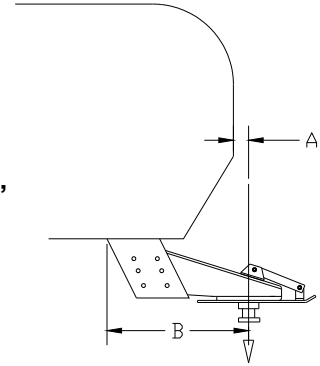

Figure 1
3. The trailer king-pin must be kept even with /or forward of the foremost point of the trailer. See "Caution" and "figure 1" on pg. 3.
4. Trucks with bed liners may need a tall Mounting Post. See "NOTE" under item 13 of "Drilling the Bed" on pg. 11 for detail.
5. Read these instructions completely and follow them accurately. Should you have any questions, please call the factory at (800) 443-2307 for installation assistance.
As a general rule, for the SuperGlide hitch to maintain proper clearance to the truck, the leading edge of the trailer (measured at the corner) should be even with the center of the king pin. (Figure 1). Most truck trailer combinations will allow 102" wide trailers if the king pin is located as described. Narrower trailers will allow the king pin to be "tucked" under the trailer overhang to some extent. Call PullRite technical support with trailer width, make and year of truck and distance the king pin is from leading edge of the trailer. 1-800-443-2307
Using a trailer that has a long rear slope to the King Pin Box Hangar, "B" in (Figure 1), may cause damage to the trailer or truck bed during turns. Dimension "B" must be less than one half the width of the inside top edges of the bed. Please call PullRite technical support, 1-800-443-2307, if more information concerning this problem is needed.